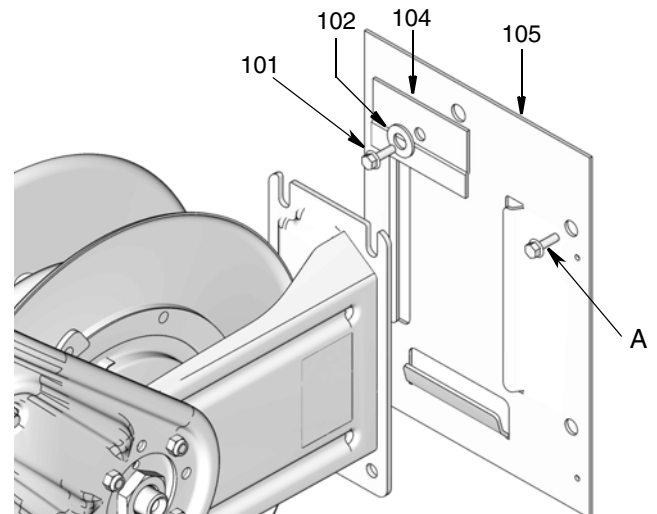

FIG. 5
NOTE: For wall and ceiling installations, the user must provide four mounting bolts and four washers (A) (FIG. 5) that are strong enough to support the weight of the cord reel, cord and accessories. See Technical Data, page 26 for the cord reels weights without accessories.
3. Use the reel base (FIG. 5 - 105) to lay out the position of the mounting holes before you drill
NOTE: For easier installation, mount the base plate (105) to the wall first (FIG. 5).
4. Drill mounting holes. Mount base plate (105) to wall using 4, user supplied mounting bolts (A) that are strong enough to support the weight of the cord reel, cord and accessories. Tighten bolts securely.
5. Slide cord reel onto the base plate (105) and install the hold-down plate (104), washer (102) and screw (101). Tighten the screw firmly (FIG. 5).